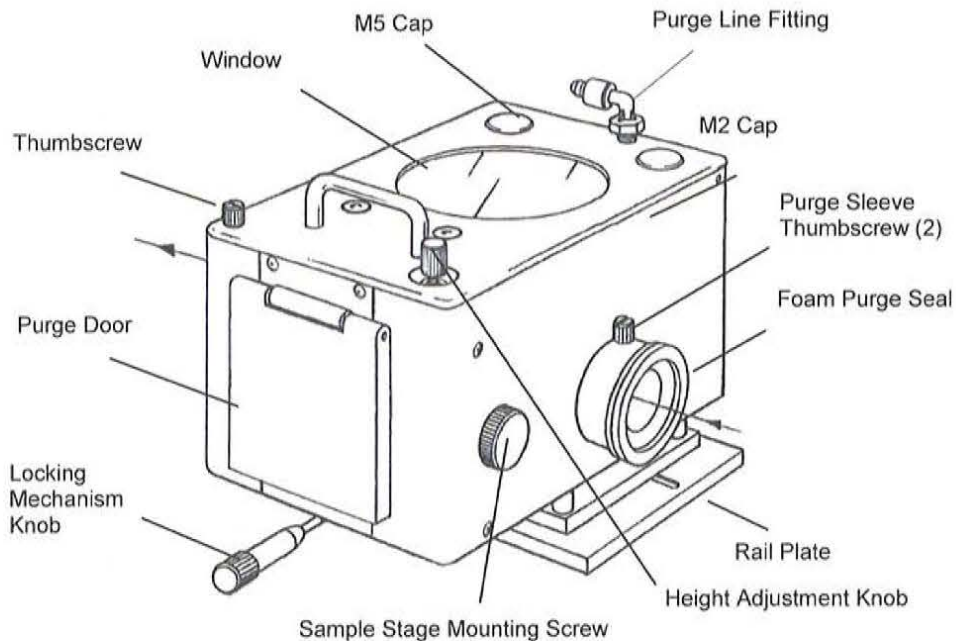

Figure 1 • Front View of the Praying Mantis™
Before installing the Praying Mantis™, familiarize yourself with the accessory and its various components by referring to the drawing of the Praying Mantis™ found below (Figure 1).
- Open the door on the front of the attachment (Figure 1).